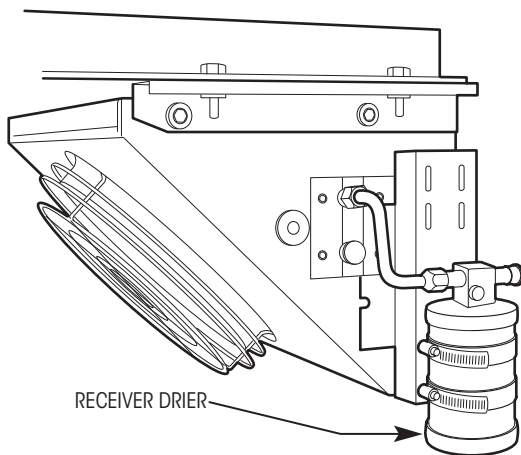

FIGURE 5
- 4) Lubricate O-rings on tube assemblies just before connecting fittings. Place receiver drier in hose clamps. Attach right or left tube assembly to receiver drier "in" port. Connect other end to No. 6 condenser fitting. Tighten hose clamps. See Figure 5 or 6.